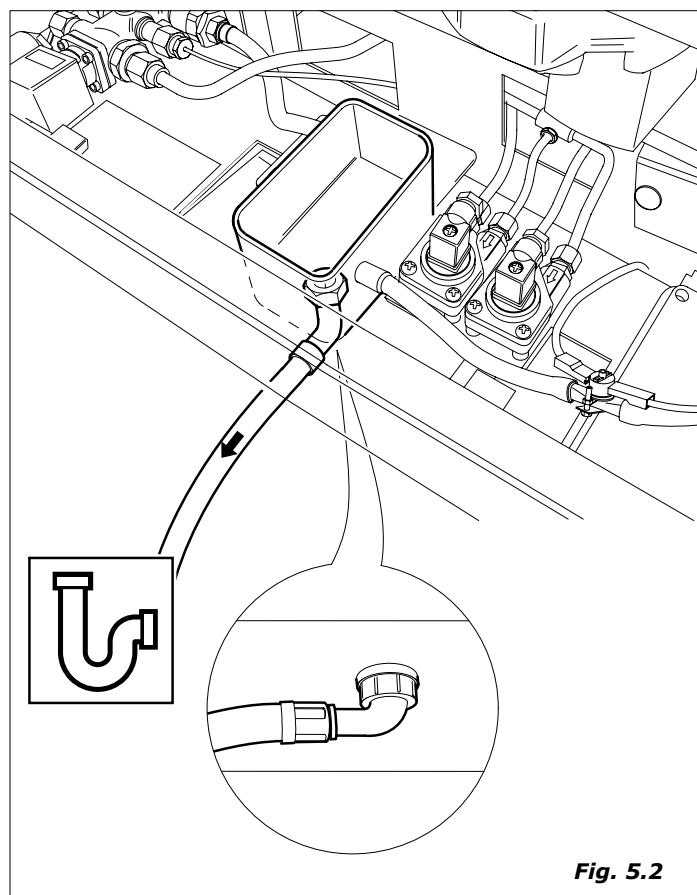
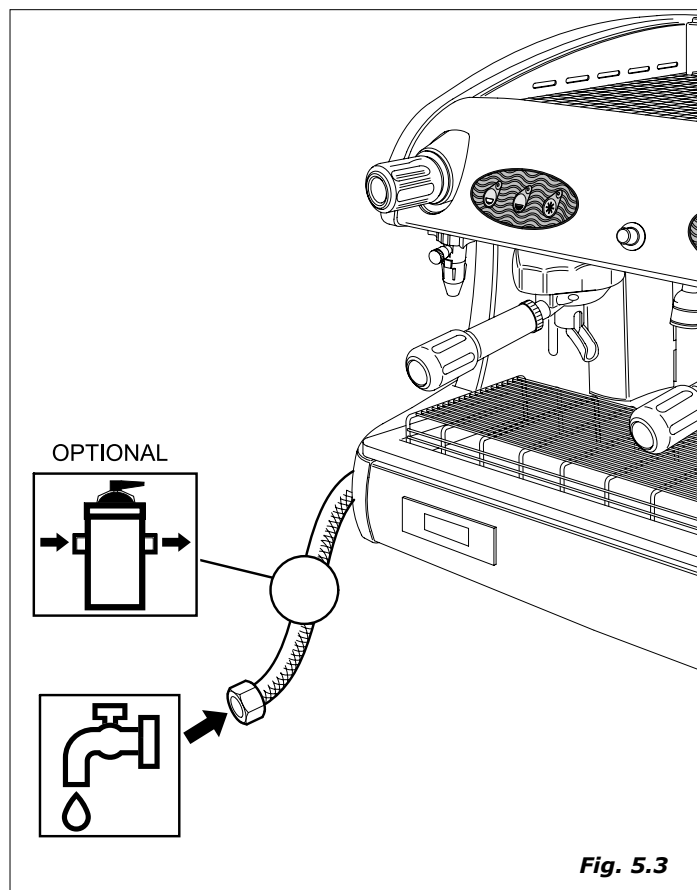

Fig. 5.2
Fig. 5.3
5.1.2 Water mains supply (Fig. 5.2 and Fig. 5.3)